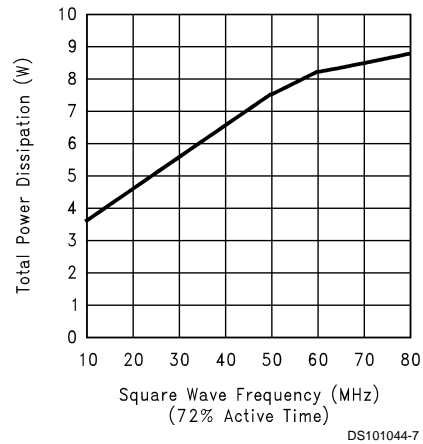

FIGURE 6. Power Dissipation vs Frequency
*Figure 6* shows the maximum power dissipation of the LM2435 vs Frequency when all three channels of the device are driving an 8 pF load with a 40 Vp-p alternating one pixel on, one pixel off signal. The graph assumes a 72% active time (device operating at the specified frequency) which is typical in a monitor application. The other 28% of the time the device is assumed to be sitting at the black level (65V in this case). This graph gives the designer the information needed to determine the heat sink requirement for the appli-
The LM2435 case temperature must be maintained below 100°C. If the maximum expected ambient temperature is 70°C and the maximum power dissipation is 8.7W (from *Figure 6*, 72.5 MHz bandwidth) then a maximum heat sink thermal resistance can be calculated: